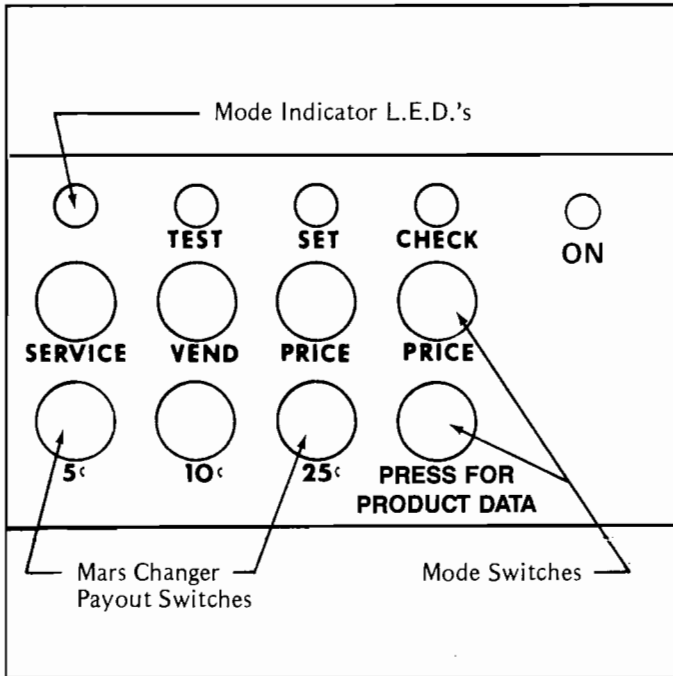
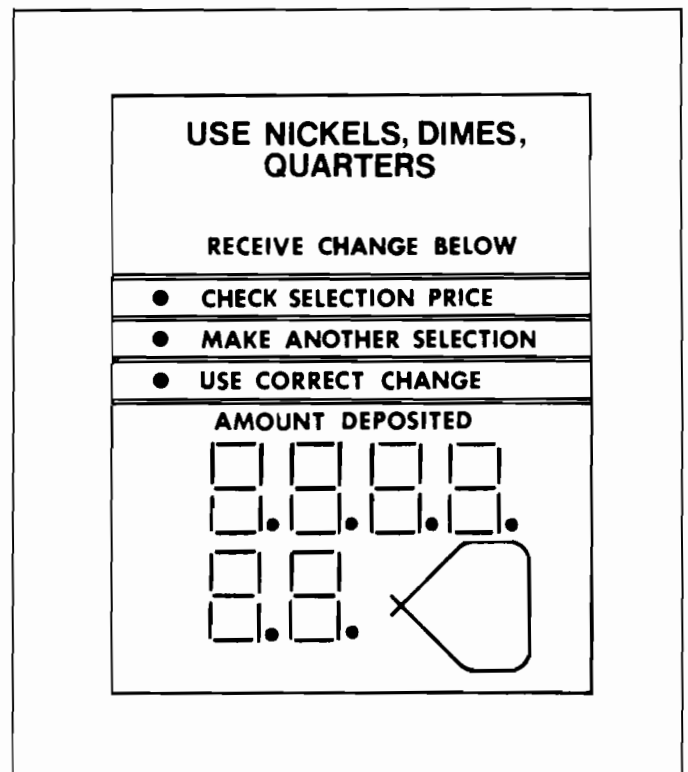

Figure 10. MODE SWITCHES.
Figure 20.
The mode switches are located on the control board. They allow for control of the following machine functions: Set price mode, check price mode, test vend mode, service mode and set serial number mode (see Figure 10). The
A. Press the mode switch "set price" button on the control board (Figure 10). The L.E.D. above the set
- A. Press the mode switch "check price" button on the control board (Figure 10). The L.E.D. above the check price button will light and the selection panel display will be blank.
- A. Press the mode switch "set price" button on the control board (Figure 10). The L.E.D. above the set price button will light and the display located on the selection panel will be blank. Any selection programmed now will be removed from the operating program. This would be done when shelves are moved or the number of selections change (Example: Replacing a four selection shelf for a eight selection shelf.)
- A. Press the mode switch "check price" button on the control board (Figure 10). The L.E.D. above the check price button will light.
- A. Press the mode switch "test vend" button on the control board (Figure 10). The L.E.D. above the test vend button will light and the display located on the selection panel will be blank. The machine is now ready to operate exactly under the same conditions as in the operate mode, so you will have to use money for the testing. After all servicing and testing has been made return the machine to the operate mode. The machine is now ready for normal customer usage.
- A. Press the mode switch "service" button located on the control board (Figure 10). The L.E.D. above the service mode button will light and the selection panel L.E.D.'s will all light (Figure 20). This tells the service person if all L.E.D.'s are in operating condition and that the Control Board is operating.
cedure until all non-functioning selections have been displayed, recorded and the selection panel display reads all 8's (Figure 20).